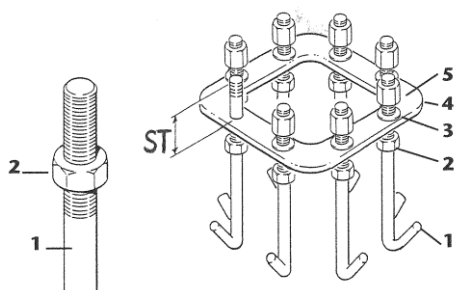

fig.21
1. Screw tight the low nuts **2** on the log bolts **1**, leaving a threaded part up to have the corresponds protusion **ST**, (see "Fixing systems" on page 15-16) (fig.21). Do the same operation on all 8 (eight) log bolts.